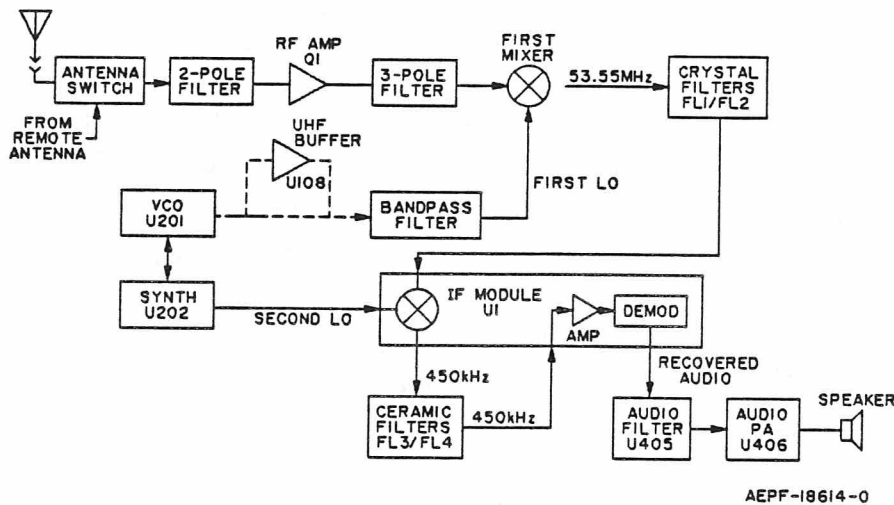

Figure 3. Receiver Block Diagram
e. Basic Receiver Operation (See Figure 3)